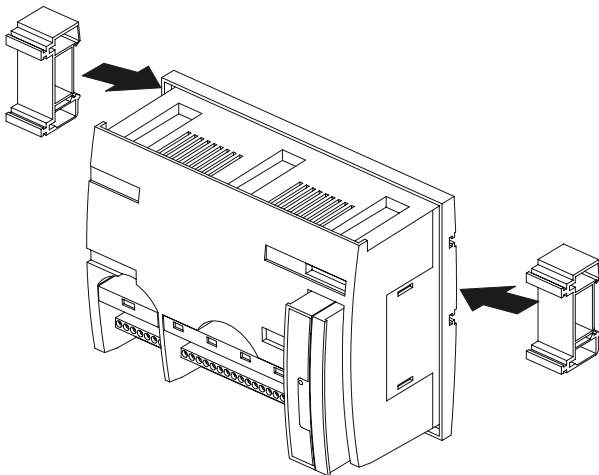

Fig. 12. Inside cabinet mounting (models w/o MMI) (a)
2. Attach the DIN rail mounting clips to housing (Fig. 12).